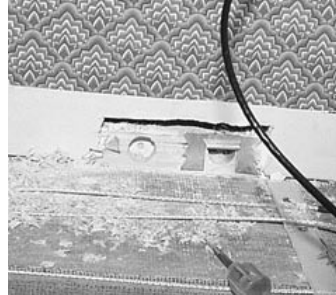

Fig. 1
- Install guard plate as shown in Figure 1.